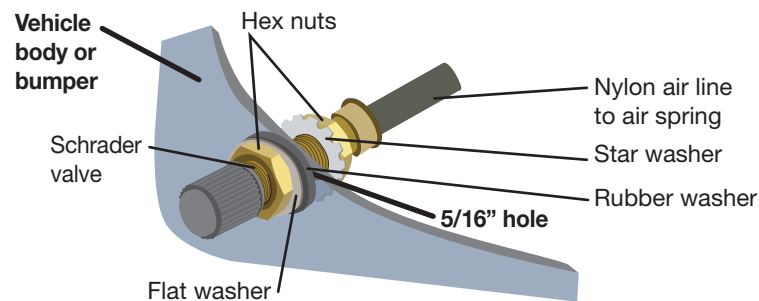

fig. 27
3. Install the Schrader valve in the chosen location (fig. 27).